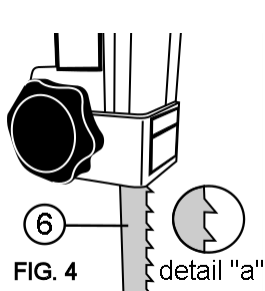
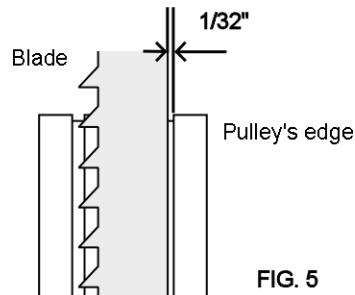

FIG. 4
FIG. 5
6.- Installing the saw blade (6).
A.- Be sure of the direction of the cut (**teeth must face down, see detail " a " on fig 4**).
B.- Put the blade (6) on the wheels (2 & 25), into the guides (15,16 & 17) and into the scrapers(20).
C.- Turn the tension handle (18) clock wise until the red spot (1) is in the center of the hole, of the tension gauge housing (31).
D.- Turn the upper wheel (2) counter clock wise 2 or 3 revolutions by hand, **very slowly and with caution** to be sure everything is ok.
E.- Be sure the blade is correctly aligned (must have a separation of 1/32" against the pulley's edge. **Fig 5**).